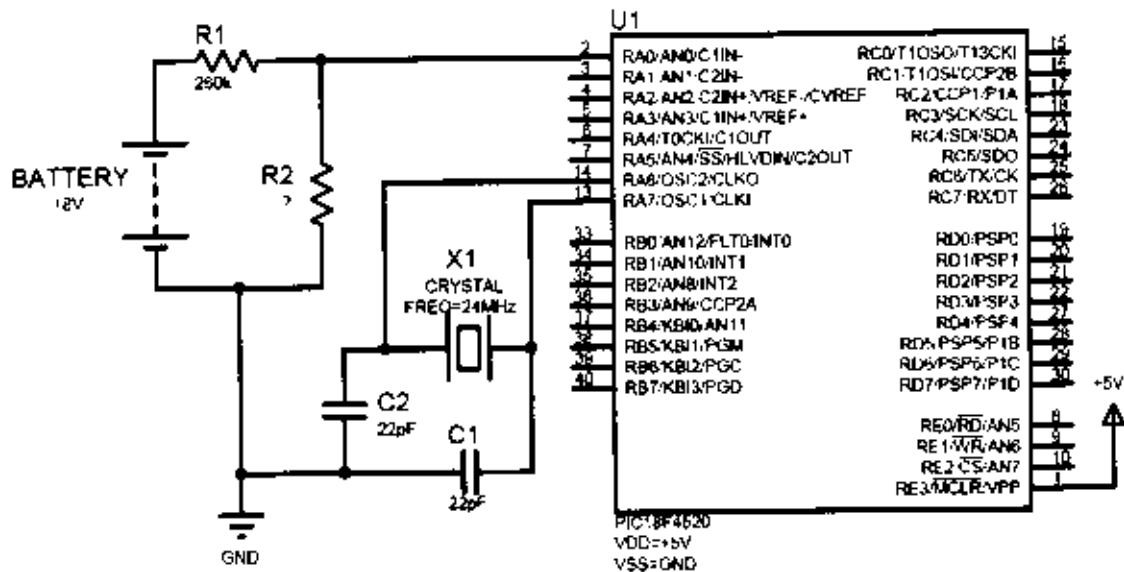

FIGURE Q2
- Q2** A PIC18F4520 microcontroller circuit as shown in Figure Q2 is used to measure the voltage of Lead-Acid battery from 0V to 18V. Assume that the external crystal oscillator is 24MHz, V_{ref+} is +5V, V_{ref-} is GND and analog input is configured only at AN0.